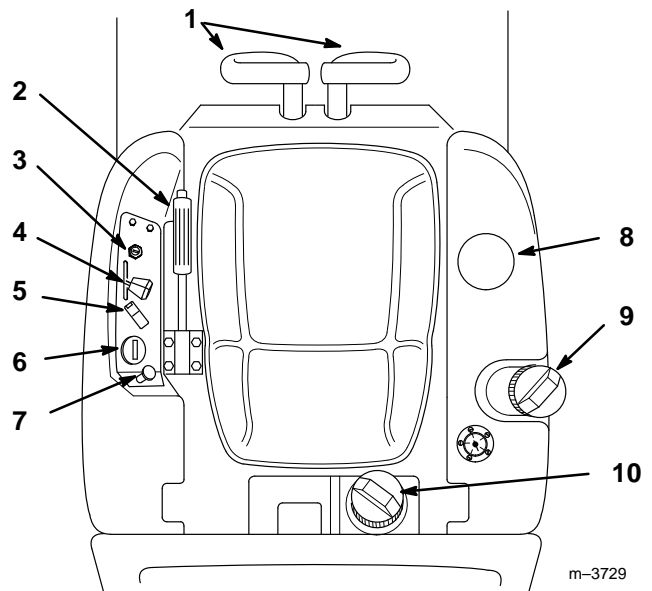

Figure 1
Become familiar with all the controls (Fig. 1) before you start the engine and operate the machine.
1. Move the motion control levers to neutral (Fig. 1).